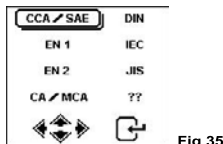

Fig.35
2. Press  key to continue and the display will show: (Fig.35)